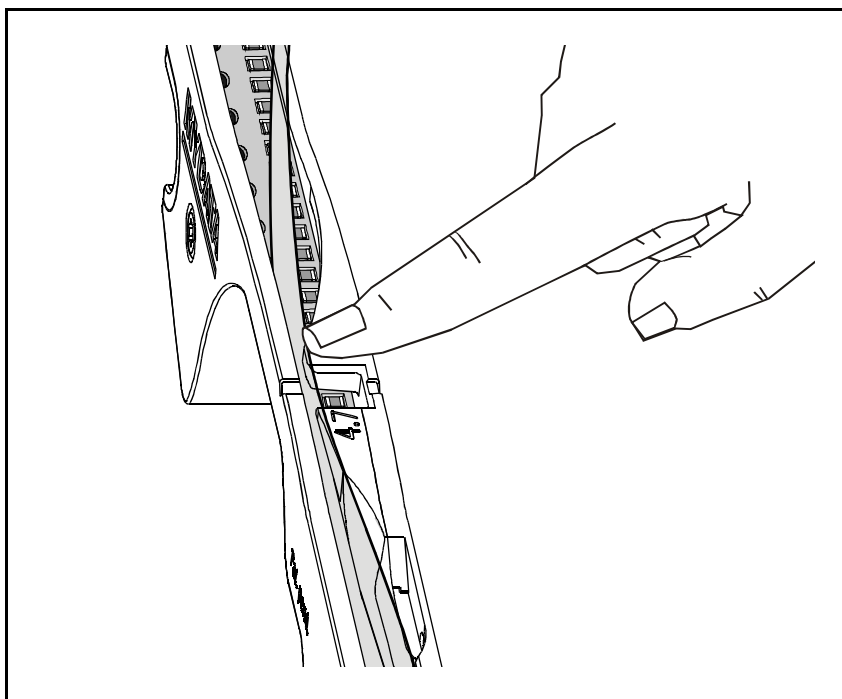

Figure 4-12. Pressing the cover tape into place
2. Thread the component tape into the feeder. Press the cover tape in position with your finger. The carrier tape is supposed to run below, and the cover tape above, the feeder rail, see Figure 4-12.